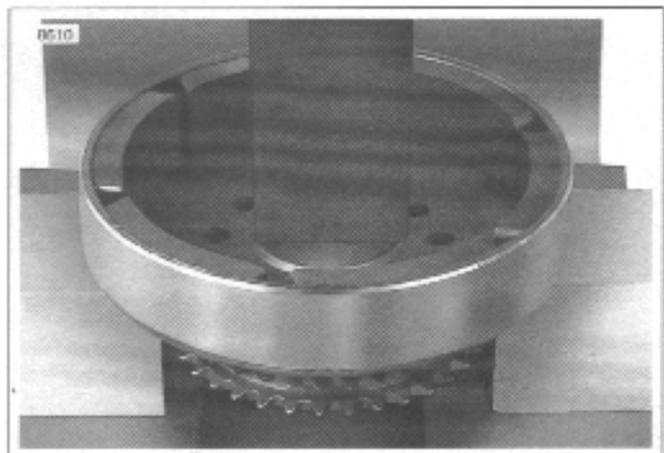

Figure 7-30. Removing Rotor From Sprocket
2. See Figure 7-30. Position blocking under rotor. Press sprocket free of rotor.